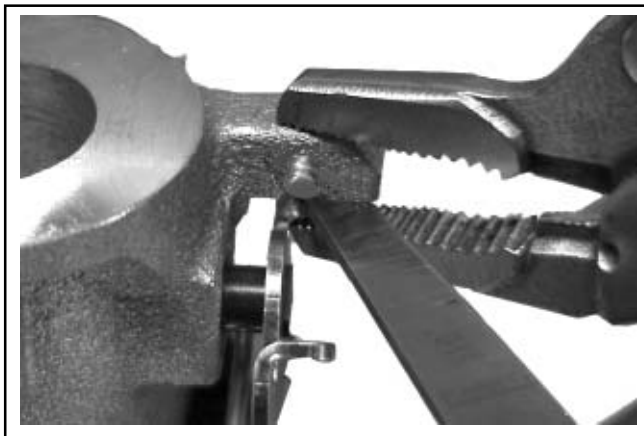

Figure 5B-36. Inserting Feeler Gauge (Engines Without Stop Screw).
- b. On engines without a stop screw, pivot the throttle shaft and plate assembly into the "Full Throttle" position. Insert a **1.52 mm (0.060 in.)** feeler gauge between the tang of the throttle shaft plate and the underside of the manifold boss. Use a locking pliers (needle nose works best) to temporarily clamp the parts in this position. See Figure 5B-36.